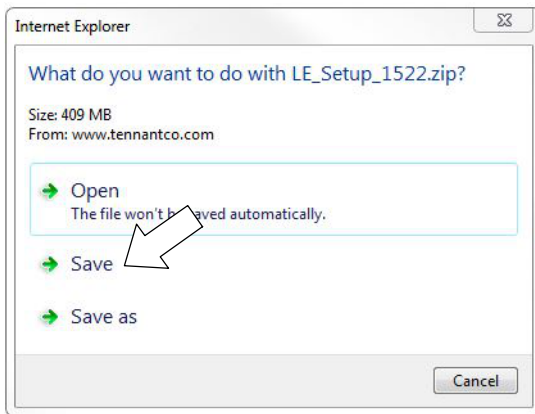

Fig. 17
3. Within the Service Application Software page, click on the link titled **“Service Diagnostics LE version 1.5.22” or later** to download the application installer then click the Save button (Figure 17).